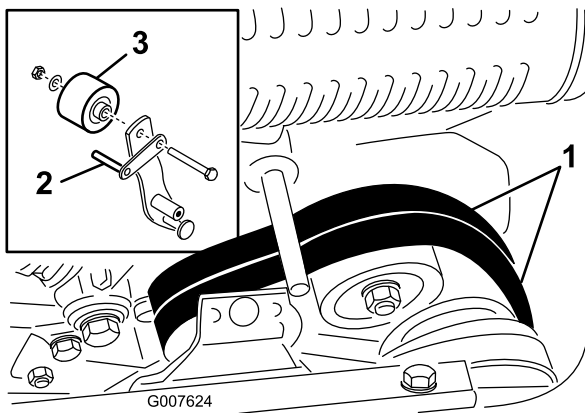

Figure 34
8. To push or pull the machine easier without starting the engine, adjust the belt guide (Figure 34, inset) as follows: